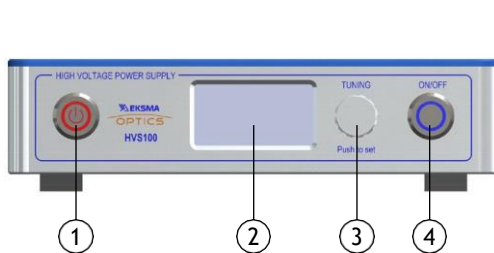

Figure 2. Front view of the HV supply
- > Push the **On/Off** button to off. The **On/Off** LED (4 in Figure 2) should turn off.
- > Turn off the **Power** button (1 in Figure 2).